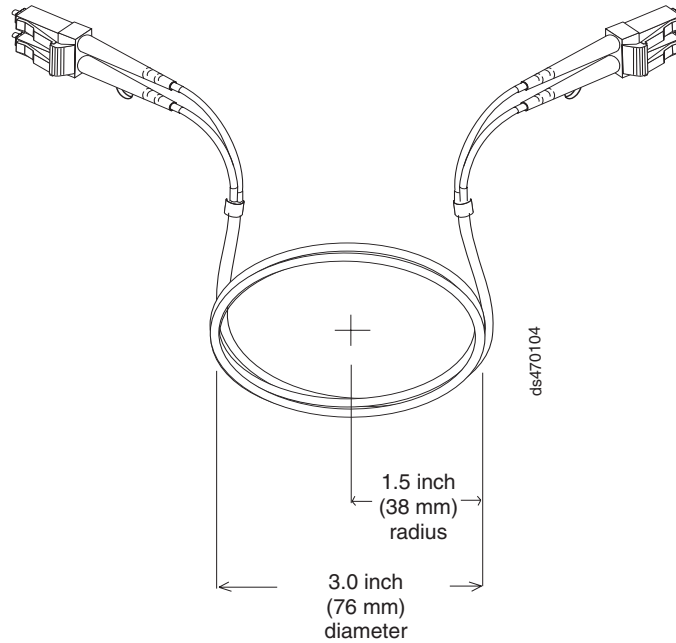

Figure 34. Recommended bending and looping specifications for fibre-optic cables
- When storing excess or unused fibre-optic cables, do not bend the cables to a diameter of less than 76 mm (3 in.), or a radius less than 38 mm (1.5 in.) or wrap them around themselves. See Figure 34 on page 55.